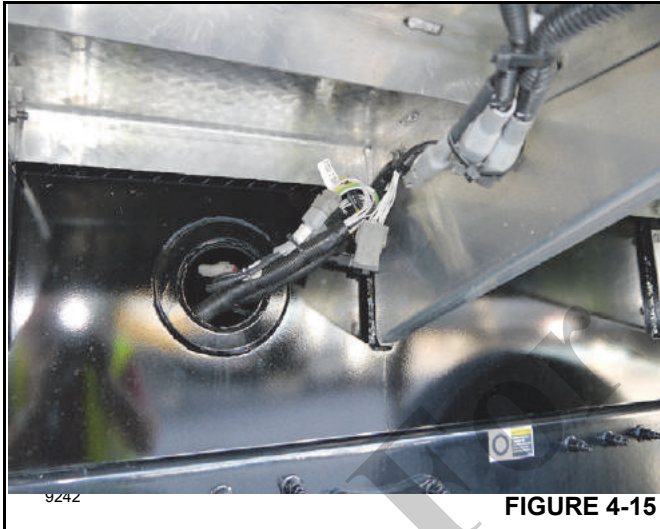

FIGURE 4-15
2. An aerial lift interlock module is located inside the torsion box near the passenger side outrigger controllers (See Figure 4-15.)